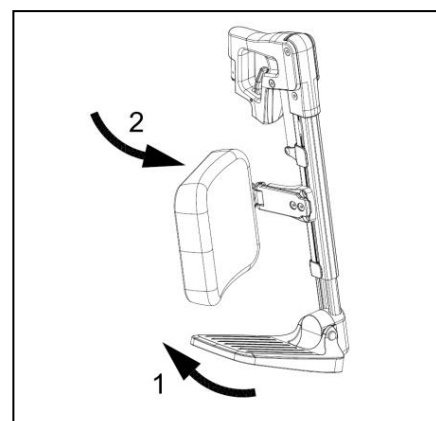

Figure 6.1
- Flip the footplates up (fig 6.1). Swing the calf plates to the side (if applicable) (fig 6.1).